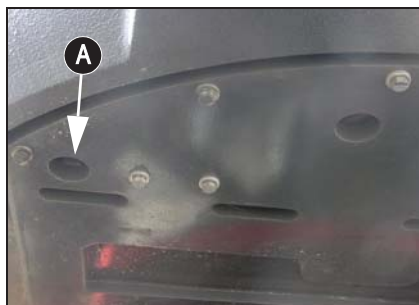

Fig. 3: Fuel drain plug
- ☞ Place a container with sufficient capacity underneath the drain plug **A/fig.3** in the chassis